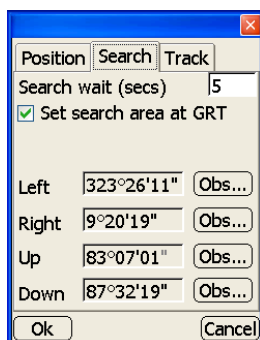

Figure 5-14. GRT-2000 Search Parameters
- On the **LPS control** dialog box, tap the *Search* tab and set the following parameters (Figure 5-14 on page 5-10):